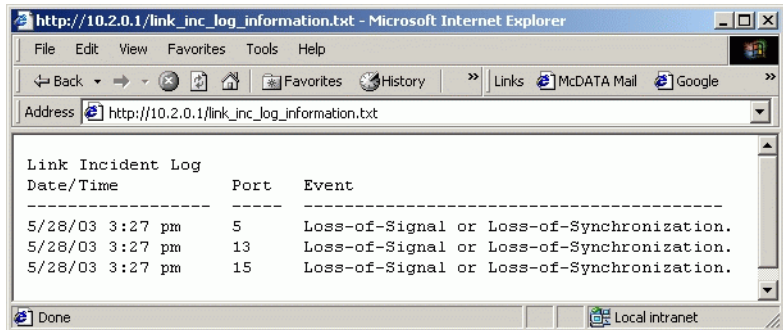

Figure 3-13 Link Incident Log
- b. Click the *Logs* tab, then click the *Link Incident Log* entry. The *Link Incident Log* displays (Figure 3-13).